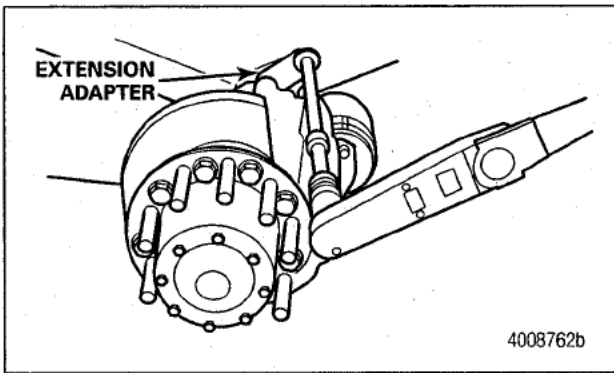

Figure 9
2. Align the caliper carrier bolt holes. Assemble the caliper to the torque plate using the carrier bolts and washers. Using a 30 mm socket wrench or extension adapter (Meritor tool number MST2255001) tighten the six carrier bolts to 350-450 lb-ft (474-610 N·m). Refer to the torque table at the end of this bulletin for the correct torque wrench setting when using the extension adapter. Figure 9. **ⓘ**